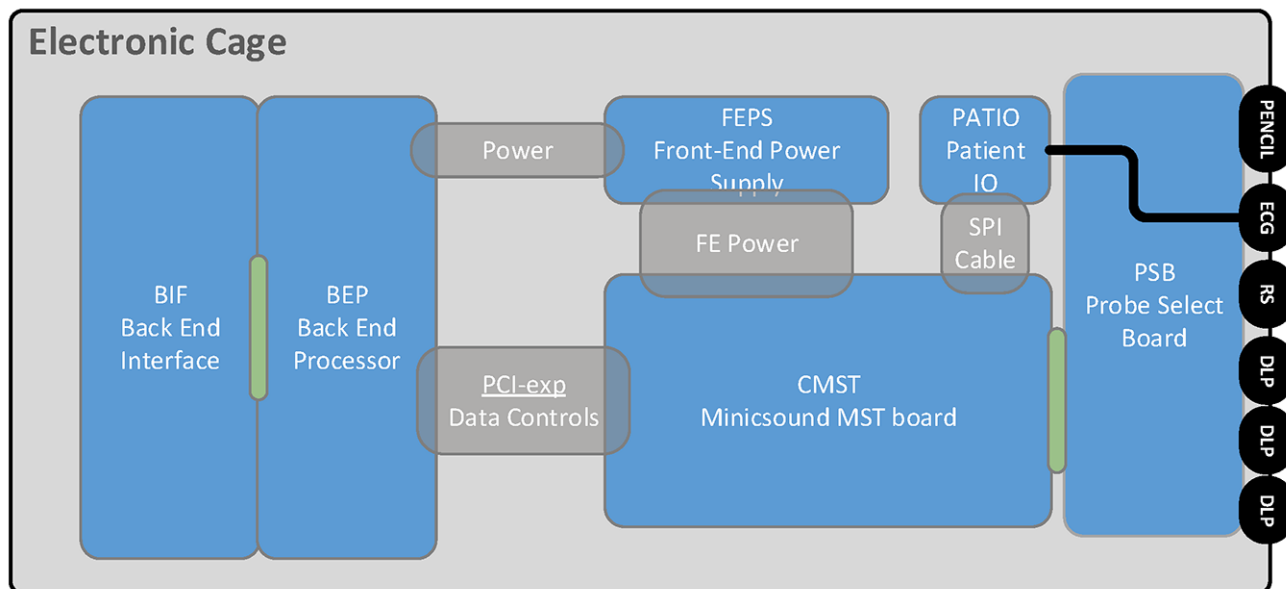

Figure 5-19 Location of Components in Electronic Cage Assembly - v203
The Front End Unit, located in the door of the Electronic Cage (see Figure 5-19 (v203)) comprises the following modules:
- For ultrasound systems with software v203, see: Figure 5-19